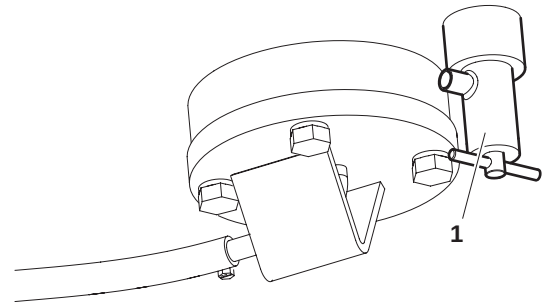

Figure 16
9. Make sure fuel tank drain valve (1, Figure 16) on bottom of tank is closed.